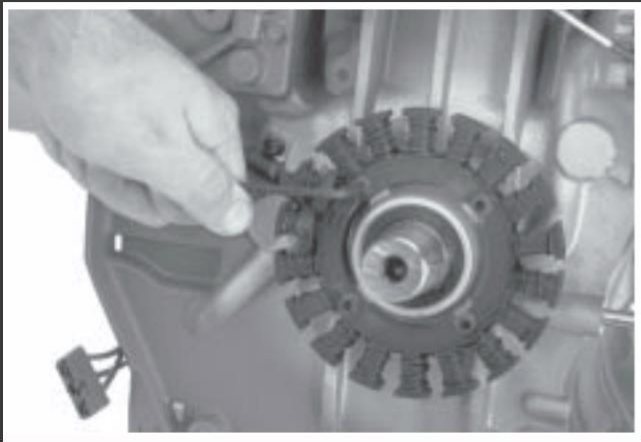

Figure 9-40. Removing Stator.
2. Remove the hex flange screw and clip securing the stator leads to the crankcase. See Figure 9-40.